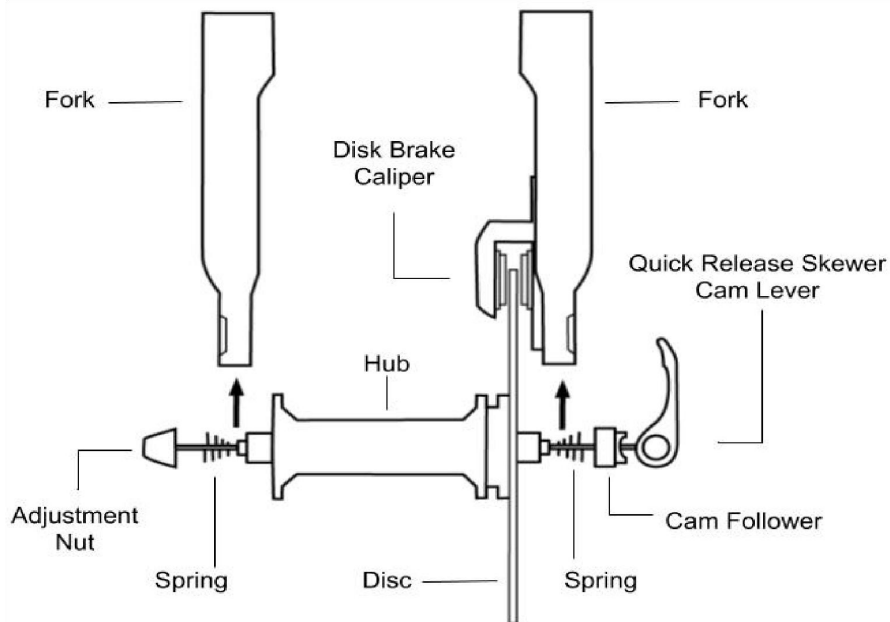

Figure 2
- 3) Insert the skewer into the wheel axle as seen shown. Keep the spring, cam follower, and lever on the **LEFT** side, nearest the disk brake. Keep the adjustment nut and spring on the **RIGHT** side. (See Figure 2)
- 2) Insert the front wheel with the spacers in between the front fork on the bike. Be sure to align the disk between the brake caliper as shown in Figure 2.